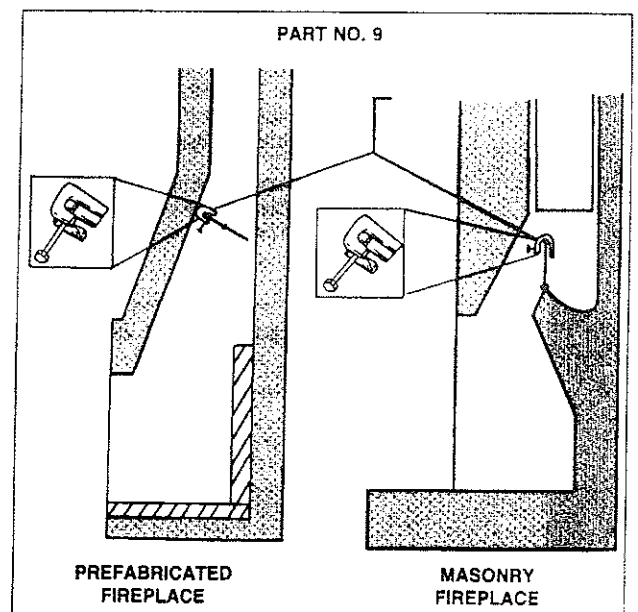

Figure 2. Damper Stop Clamp.
- B. Open fireplace damper fully and install Damper Stop Clamp with 1/4 x 2" set screw (Part #9). This clamp is designed to prevent accidental closure of the damper while in use. (See Figure 2.) Should Damper Stop Clamp supplied not fit, a permanent damper stop clamp must be installed that will keep the damper open at a distance of not less than 1 1/2".